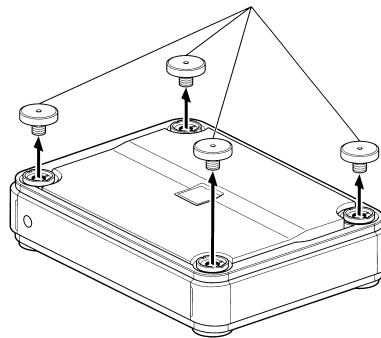

Fig. 1
## INSTALLATION (Fig. 1 - Fig. 4)
2. Remove the four corner top caps on top using the hexagon wrench (large, supplied). Refer to fig.1.